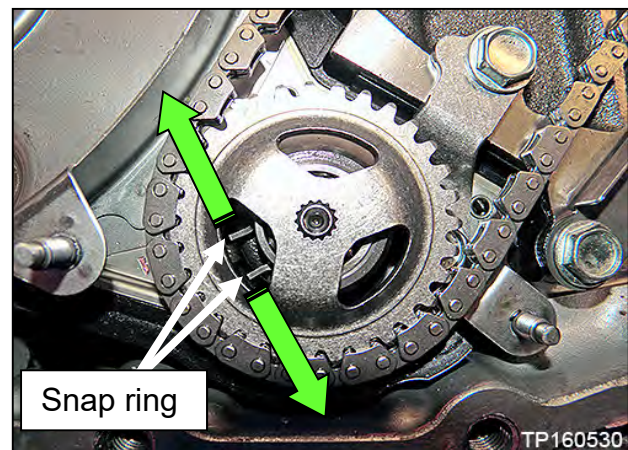

Figure 41
- Spread the snap ring to remove sprocket (Figure 41).